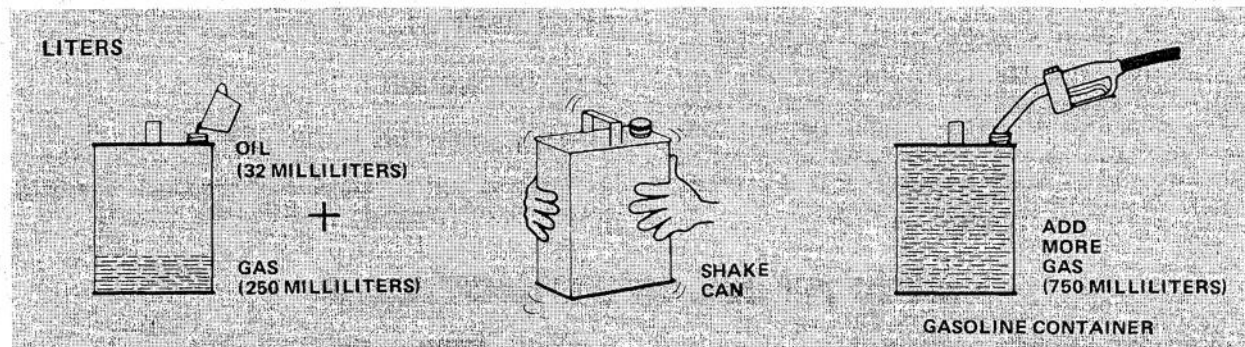

Figure 7C
1. Add 250 milliliters of leaded REGULAR or unleaded gasoline to a gasoline container (Fig. 7C).
2. Pour 32 milliliters of two cycle engine oil into the gasoline container (Fig. 7C). DO NOT use multi-viscosity oils.
3. Shake the gasoline container vigorously so oil mixes with gasoline (Fig. 7C). Remember to install cap on gasoline container before shaking.
4. Add an additional 750 milliliters of gasoline to the gasoline container (Fig. 7C).